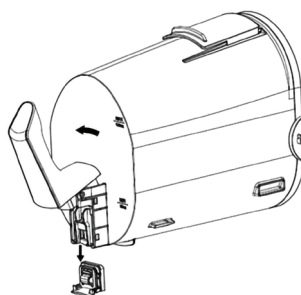

Figure 7
4. Remove the outlet port components carefully (see Figure 7).